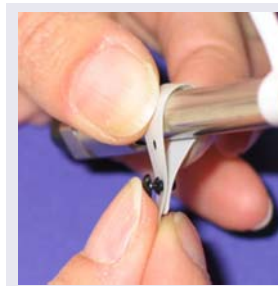

Figure 9-74. *Attaching the Column ID System to the Column*
1. To attach a column ID chip card to the column, wrap the strap around the column, insert the rivet into one of the holes on the strap, and press to secure the strap to the column (see Figure 9-74).